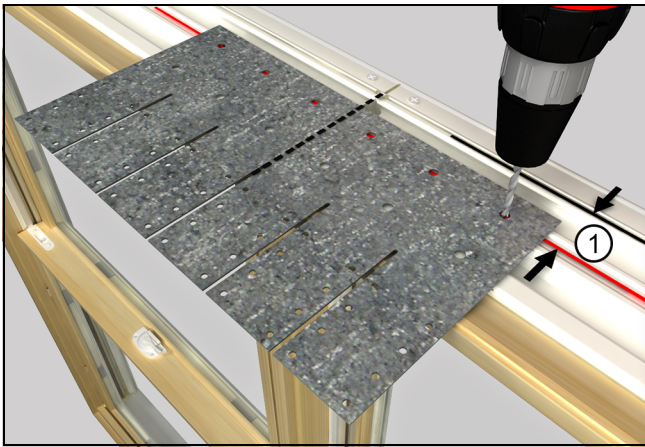

Figure 10
1. Measure and mark a line 1 1/2" (38) from the nailing fin kerf. Center the bracket over the mull and align the exterior hole on the mull bracket with your mark. Using the bracket as a guide, carefully drill 3/32" (2) pilot holes through the first layer of the Ultrex frame. See Figure 10